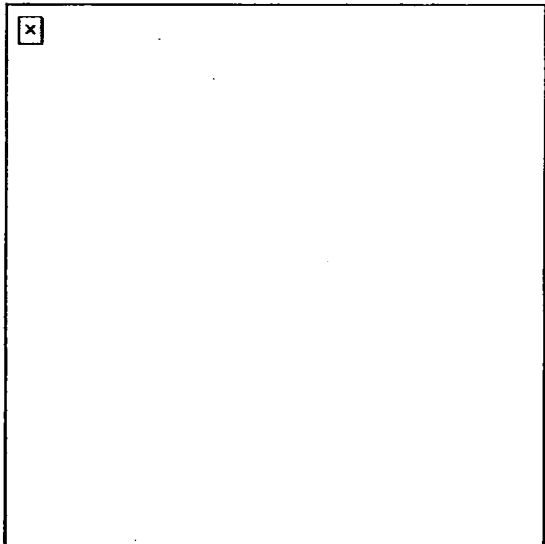
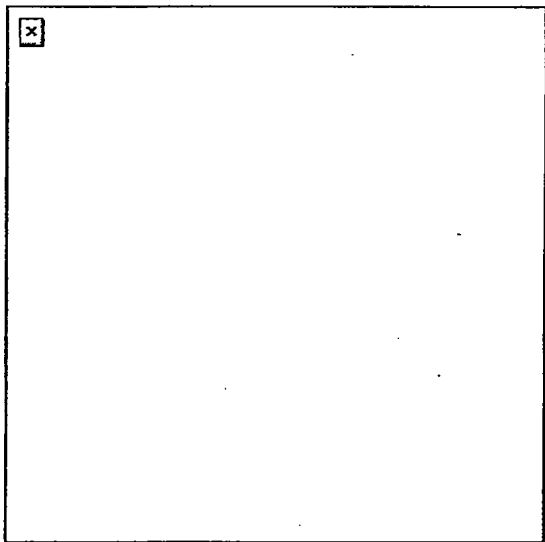

Figure 10. Gripping of pins on feed throat assembly.
Figure 11. Insertion of feed throat assembly.
5. Attach the feed throat assembly (Figure 10 and Figure 11).